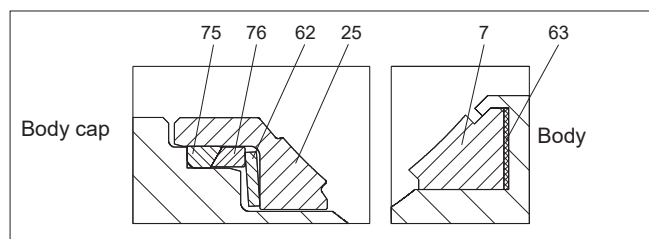

Fig. 23 H seat (2")
- Place the back seal (63) into the body counterbore. Then place the seat (7) into the body counterbore, see Fig. 23.
- Place the back seal (75), back-up ring (76), spring (62) and the seat (25) into body cap, Fig. 23.